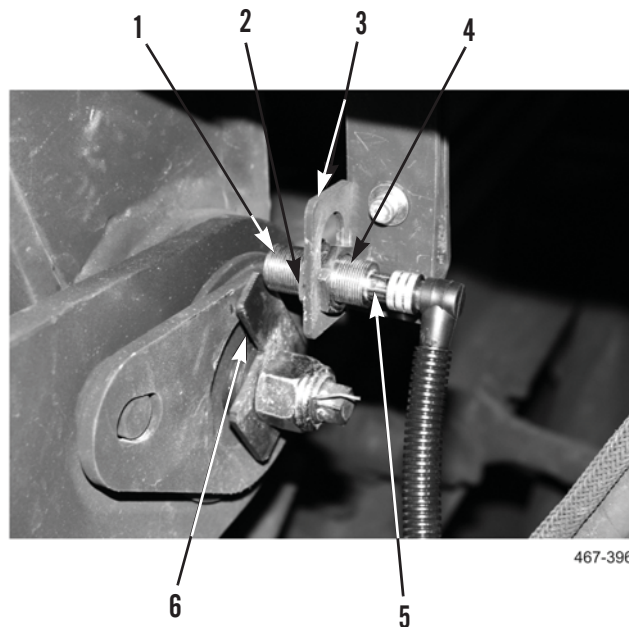

Figure 13. Middle Frame Sensor Calibration.
4. Adjust nut (Figure 13, Item 4) until face of sensor (Figure 13, Item 1) is 0.0625 to 0.1875 in. (2 to 3 mm) from sensor plate (Figure 13, Item 6).
5. Slide middle frame sensor (Figure 13, Item 1) on bracket (Figure 13, Item 3) toward sensor plate (Figure 13, Item 6) and identify position where sensor light (Figure 13, Item 5) turns on. Tighten nut (Figure 13, Item 2) at that position.